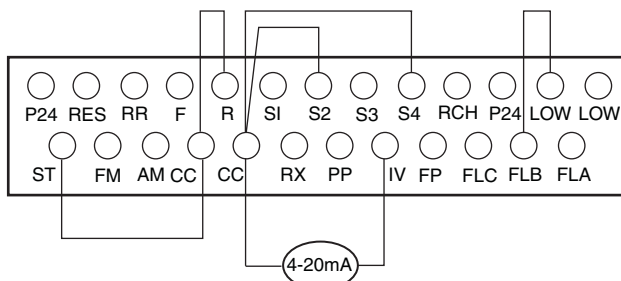

Fig. 52 — Variable Frequency Drive (TOSVERT130-E3) Terminal Block
1. Drive enable jumper is installed from terminals ST-CC (factory supplied) (see Fig. 52).